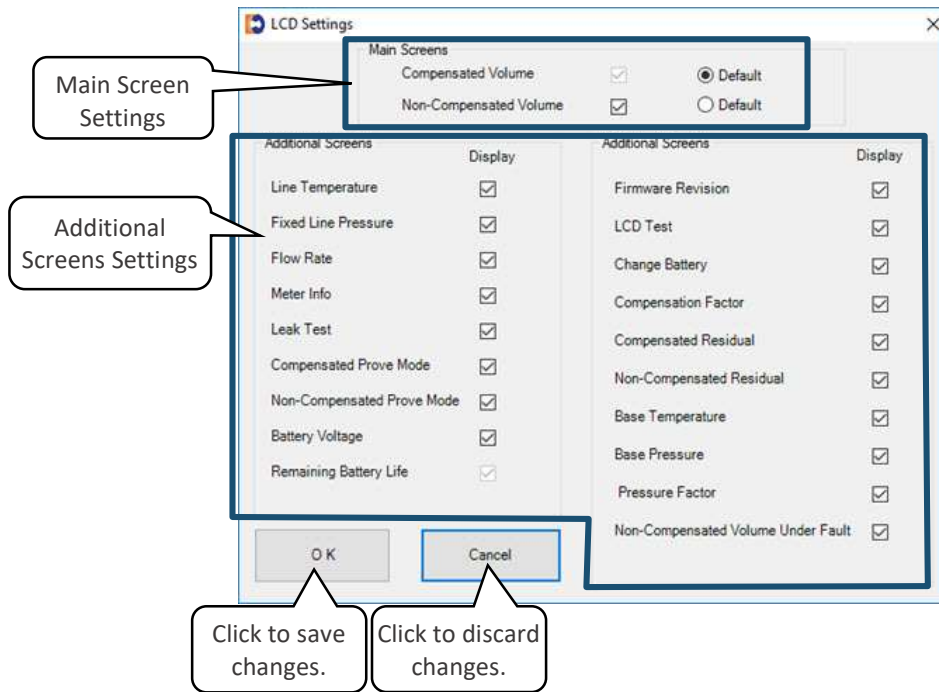

Figure 25: LCD Settings screen
2. To choose which parameters display on the unit's LCD screen, use the **LCD Settings** screen (Figure 25) to select () or clear () the checkboxes, as described in Section 3.5.1 and 3.5.2.